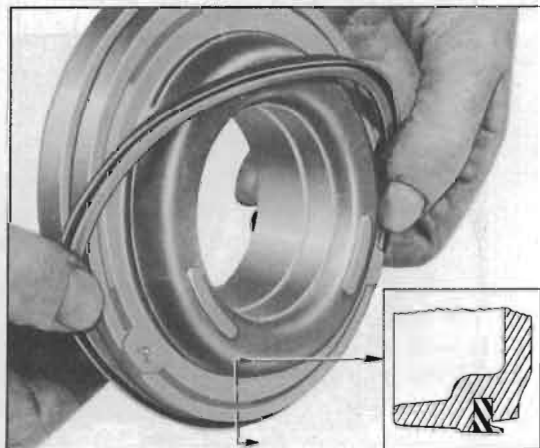

Figure 4-113—Replacement of Clutch Piston Outer Seal
5. Inspect clutch piston outer seal and replace if hardened, broken, or has turned edges. Install new seal with lip extending over the smaller diameter land of piston. See figure 4-113.